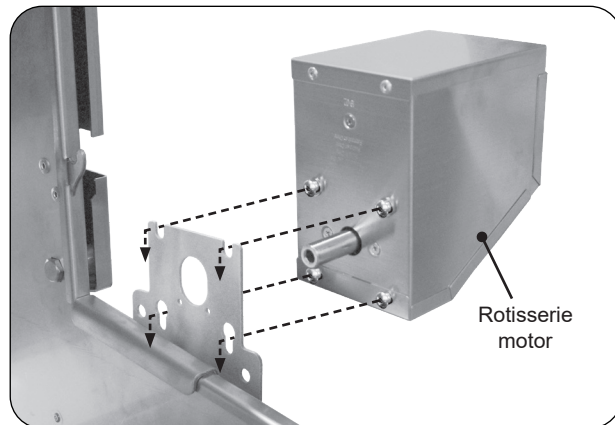

Fig. 38-2 Install rotisserie motor
2. Slide the rotisserie motor fully onto the motor bracket located on the right side of the grill (see Fig. 38-2) and connect it to a power source (do not turn on).